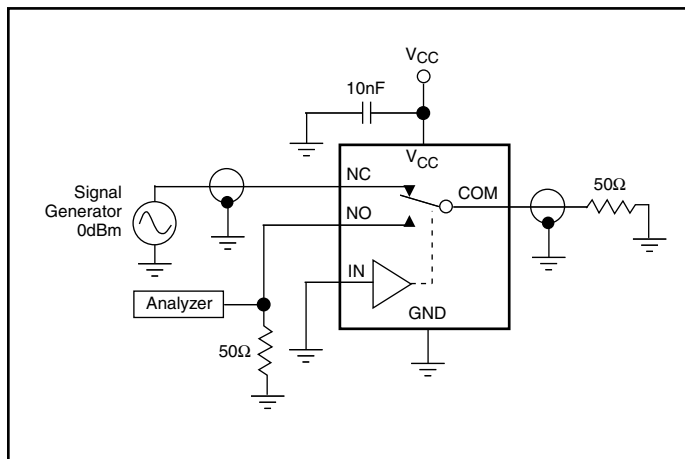

Figure 4. Crosstalk
- Off Isolation = 20log₁₀ [V_{COM} / (V_{NO} or V_{NC})]. See Figure 4.